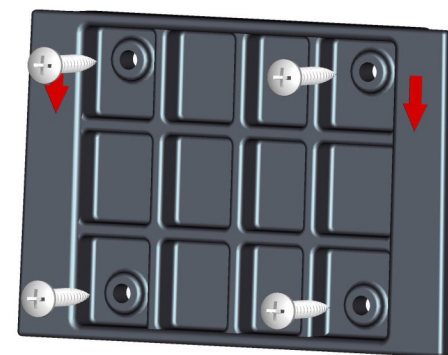

Figure 2
① Wall-mounted
- a. Take out the dead plate from the supporting accessories and fix the plate on the wall with expansion screws as the Figure 2 shows. (Please pay attention to the directions of arrows on the plate and make sure the directions of arrows are pointing down when it's installed.) Be sure the vertical length of the drain pipeline is more than 1.2m.